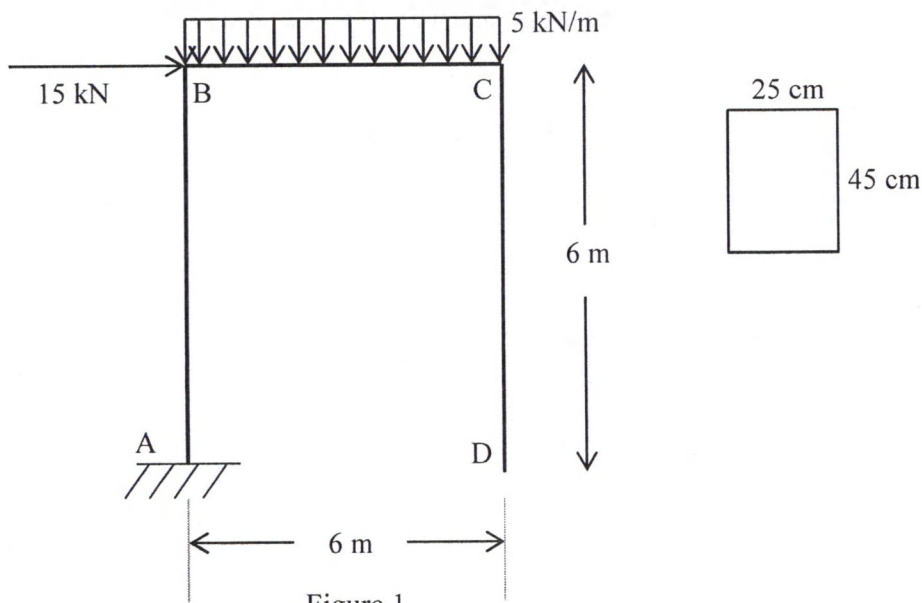

Figure 1
1. Determine the vertical deflection at point D of the frame loaded as shown in figure 1 (Use virtual work method.) [8]